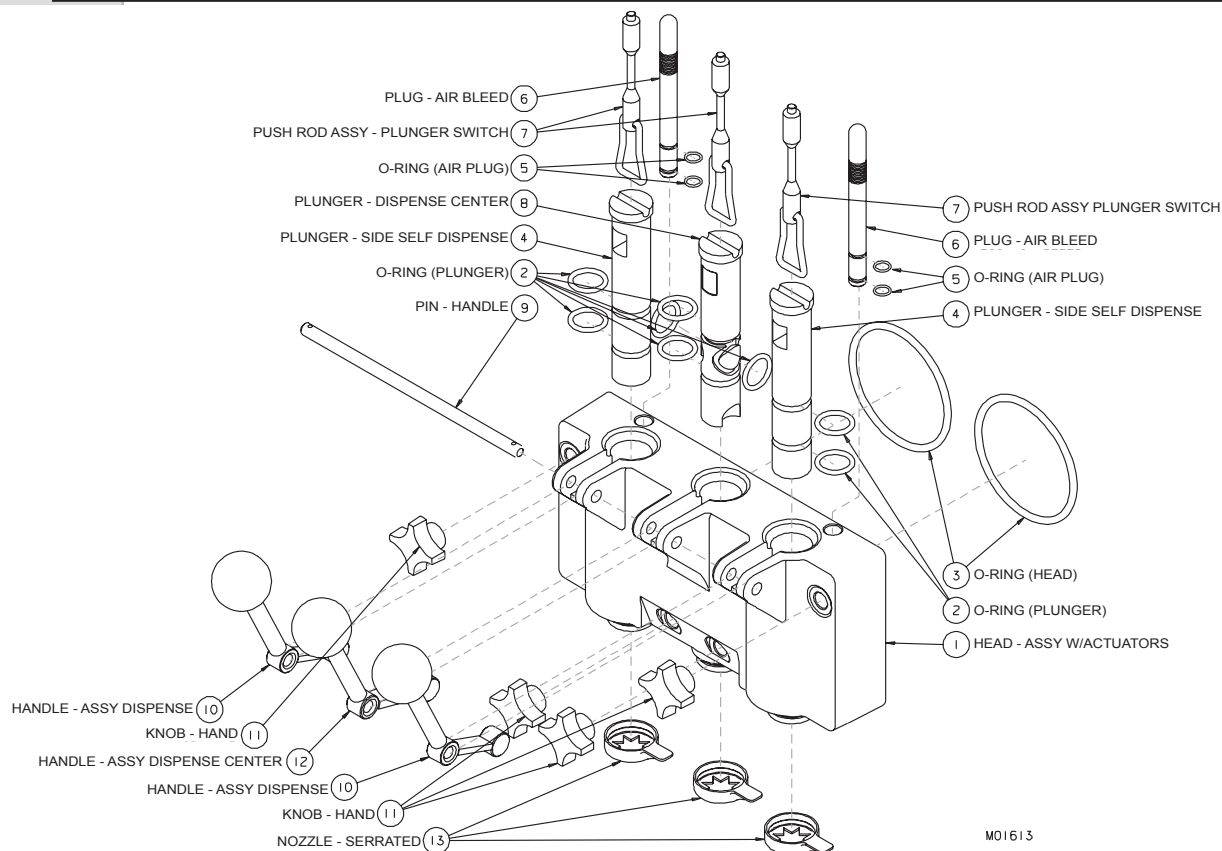

Figure 7-2 Head Assembly
2. (See figure 7-2.) Remove the spigot rods (7) by lifting up out. Remove the hand knobs (11) and pull the dispensing head (1) straight out.